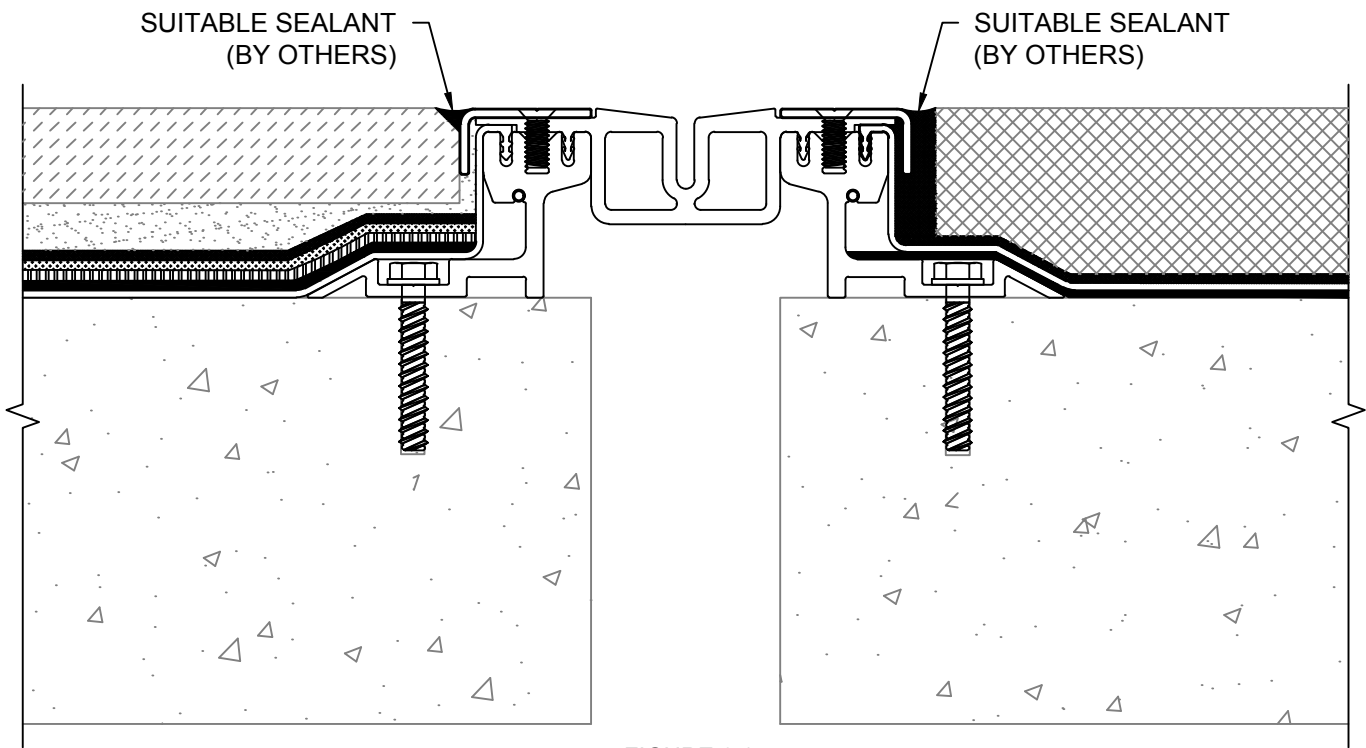

FIGURE 6.1
- 6.2) There are many ways to tie the wings into the waterproofing, which depends on what kind of waterproofing is being used and what the finished surface of the plaza deck it to be made of. Figures 6.1 and 6.2 show 4 different examples.